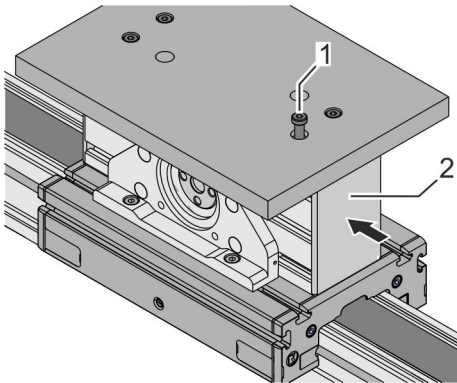

Fig. 28: Fixing slot stones
3. ➤ Insert the end cap (Fig. 28/2) onto the pulley housing on the guide carriage.
Carefully tighten the screw (Fig. 28/1) for every slot stone: